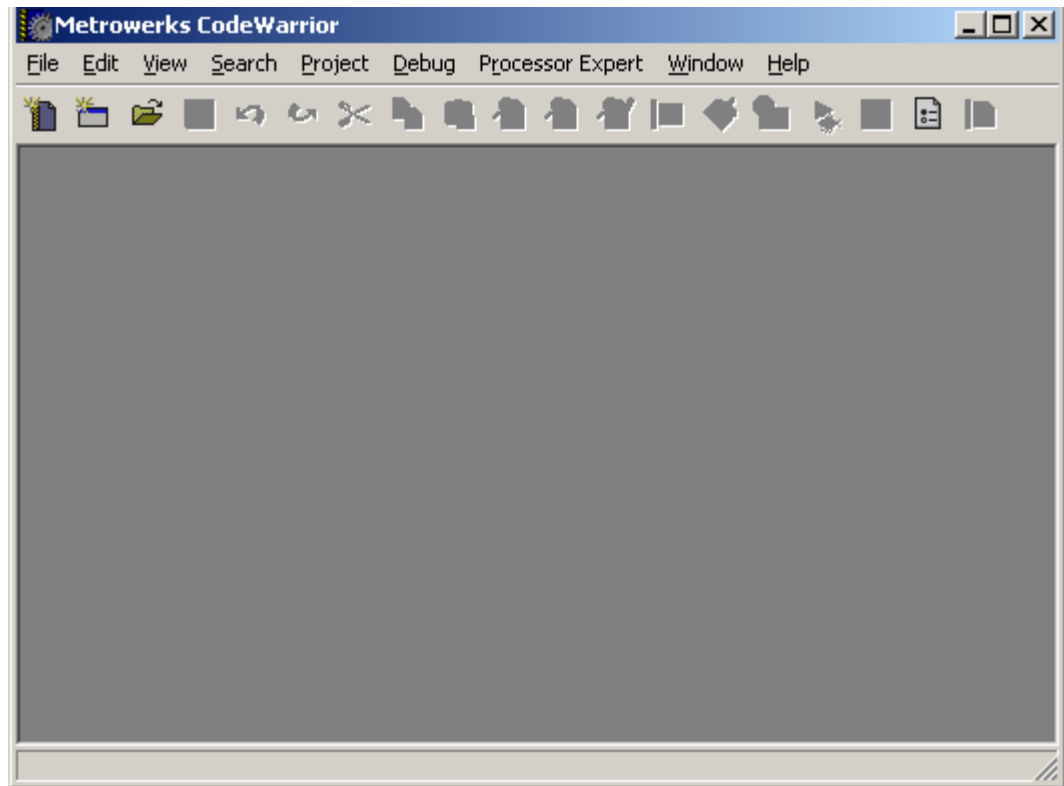

Figure 1
- b. **Figure 1**-The Metrowerks CodeWarrior window will pop up: